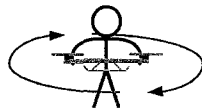

Fig.1
3. (Fig.1) Hold your Multi-rotor horizontal and rotate it around the gravitational force line (about 360°) until the LED changes to constant green, and then go to the next step.